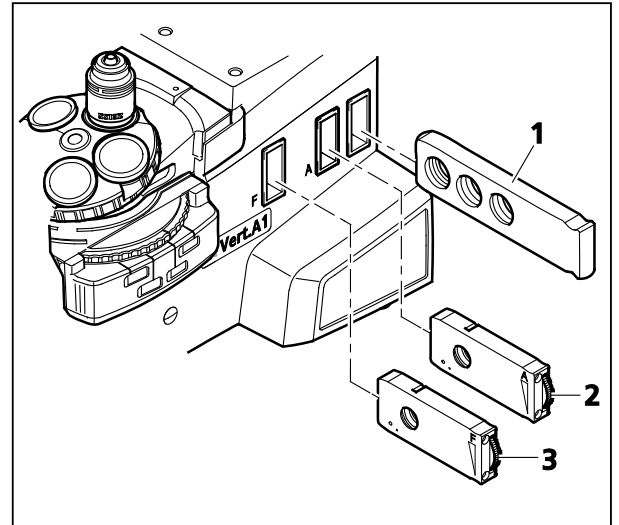

Fig. 2-21 Reflected Light Filter Slider and Slider for Aperture and Luminous Field Diaphragms
- Insert and operate the filter slider from the right (Fig. 2-21/1). To this end, remove the covers from the insertion slot.
- Aperture diaphragm slider A, equipped with a setting wheel (Fig. 2-21/2) to open or close the diaphragm, can be inserted from the right. The FL attenuator may also be inserted here for fluorescence applications.
- The luminous field slider for slot F, equipped with a setting wheel (Fig. 2-21/3) to open or close the diaphragm, can be inserted from the right.